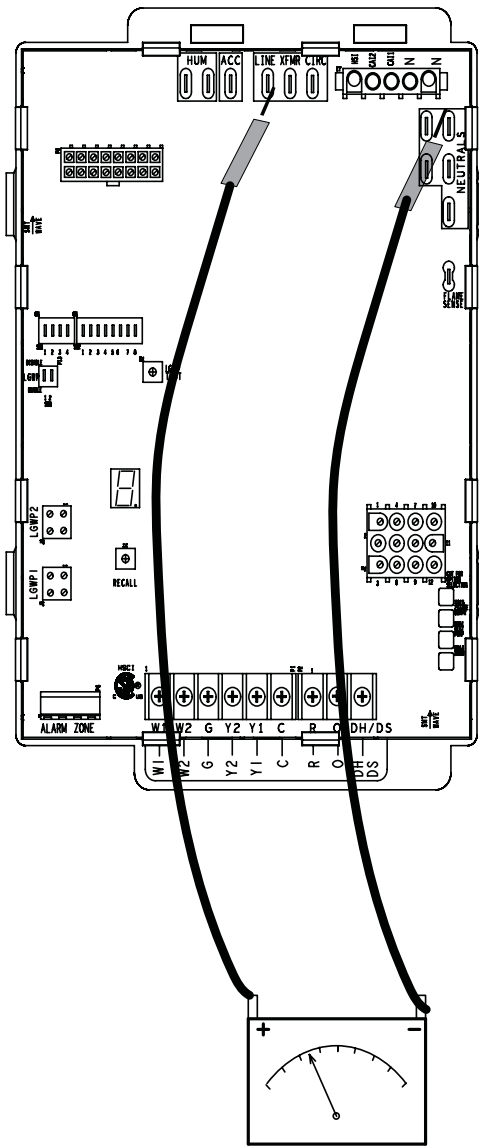

Figure 47.
1. Measure the AC voltage between Line Neutral (spade terminals) and “C” terminal (low voltage terminal block) on the integrated control. See **Figure 47**. A wide variation in the voltage between Line Neutral and “C” as a function of load indicates a poor or partial ground. Compare the readings to **Table 20**. If the readings exceed the maximum shown in **Table 20**, make repairs before operating the furnace.
2. In addition, measure the AC voltage from Line Hot to Line Neutral (spade terminals) on the integrated control. See **Figure 47**. This voltage should be in the range of 97 to 132 VAC.